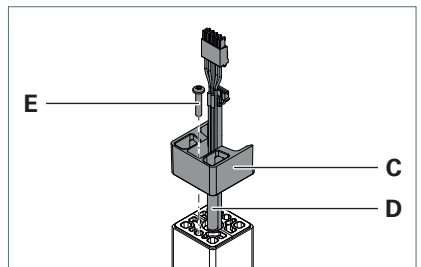

Fig. 2: Mounting the adapter on the column.
- ▶ Route the cables **D** from below through the adapter **C** and set the adapter onto the column, see Fig. 2.